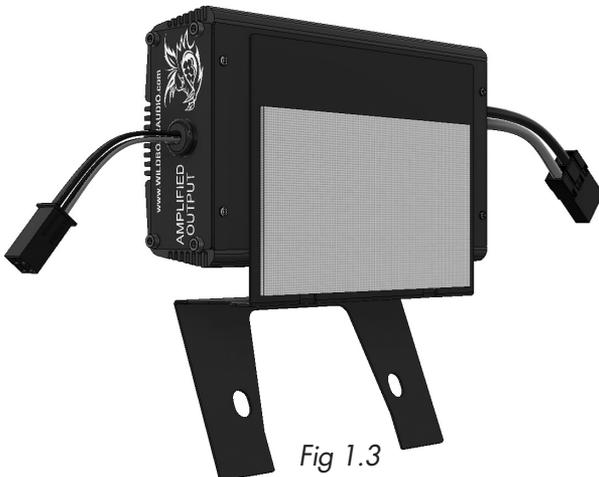

Fig 1.3
- Step #4: "Stick" one of the amplifiers to the BACK of the plate in the same orientation as shown in Fig 1.3.